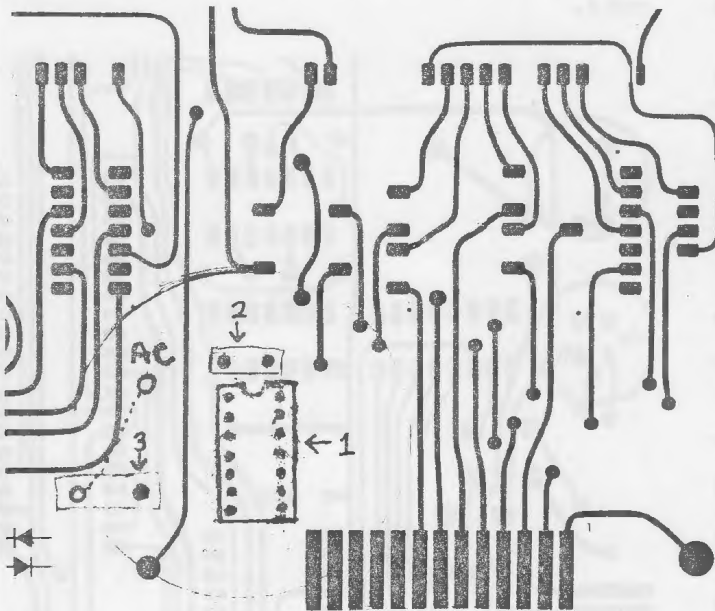

Figure 2. Part of top of PC board. Showing locations of holes to drill.
Drill 14 holes for the DIP socket. It will be located in the bare area of the board just below socket J3 near the DB-25 modem connector. See pointer number 1 on figure 2 for proper position and orientation of the socket. It is easier to drill these holes if a jig is made up in advance from a scrap piece of pre-drilled PC board or if a stick on 1:1 label is used as a visual guide.
Drill 2 holes for the bypass capacitor just above the socket just installed. The holes should be spaced either .2 or .3 inches apart depending on the lead spacing of the capacitor being used. See pointer number 2 on figure 2 for positioning of these holes.
Drill one hole for the Zener diode to the left of the new IC socket. See pointer number 3 on figure 2 for the location of the hole to be drilled. The other lead of the Zener diode uses an existing hole on the board.
Install the Zener diode in the holes in area 3 of figure 2. The anode lead should be put through the right hand hole and bent over to connect with the ground land on the back of the board. The cathode lead is soldered in the already existing hole.
g. Pin 12 of the new socket and the cathode of the Zener diode installed in area 3 of figure 2.
Take a lead from the secondary of the power transformer and connect it through a resistor to the pad marked 'AC' in figure 2. The value of resistor to be used may be calculated with the following formula: